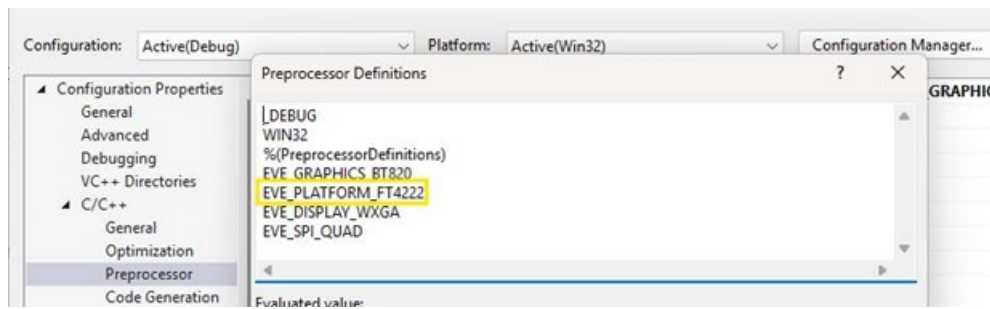

Figure 16 - Communication Interface Set to FT4222H
4. Figure 16 shows an example of the communication interface set to FT4222H.